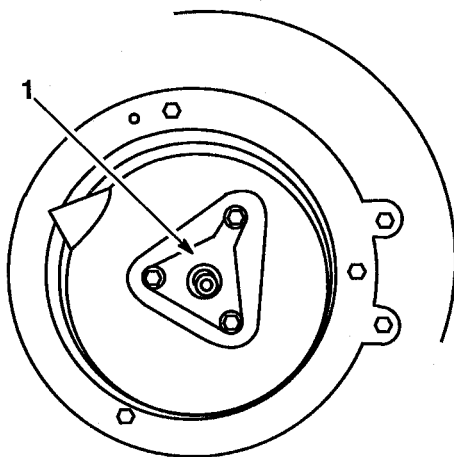

Figure 40
11. Install muffler and crankshaft support to engine mounting plate (Fig. 40).